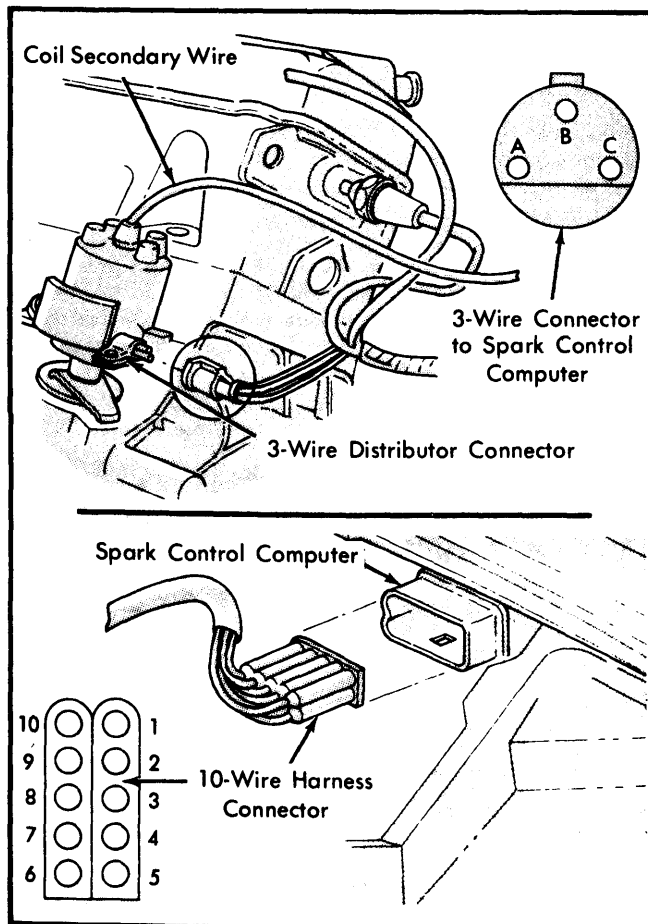

Fig. 6 Disconnecting Wiring Harnesses for Tests (Pin Locations Shown)
5) If spark was obtained, turn ignition "OFF" and reconnect coil. Disconnect 3-wire connector from computer at distributor. Turn ignition "ON" and measure voltage from pin "B" to engine ground. Voltage should be battery voltage. See Fig. 6.